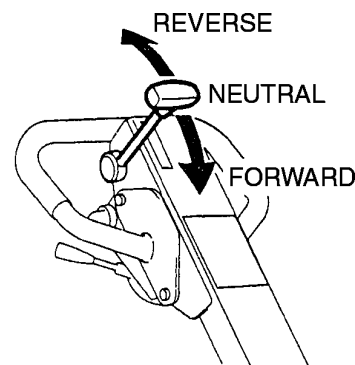

Figure 16. Direction Lever
- To make the compactor move in the forward direction push the travel lever (Figure 16) forward.
- To make the compactor move in the reverse direction pull the travel lever (Figure 16) backwards.